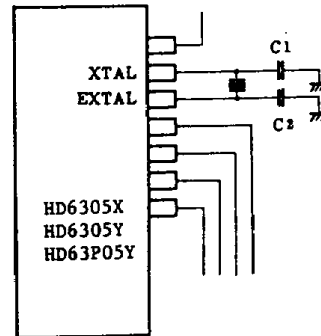

Figure 34 Design of Oscillation Circuit Board
- (1) Locate crystal, ceramic resonator, and load capacity C1 and C2 as near the LSI as possible. (Induction of noise from outside to the XTAL and EXTAL pins may cause trouble in oscillation.)
- (2) Wire the signal lines to the neighbouring XTAL and EXTAL pins as far apart as possible.
- (3) Board design of situating signal lines or power supply lines near the oscillator circuit as shown in Fig. 35, should not be used because of trouble in oscillation by induction. The resistor between the XTAL and EXTAL, and pins close to them should be 10MΩ or more. The circuit in Fig. 34 is an example of good board design.